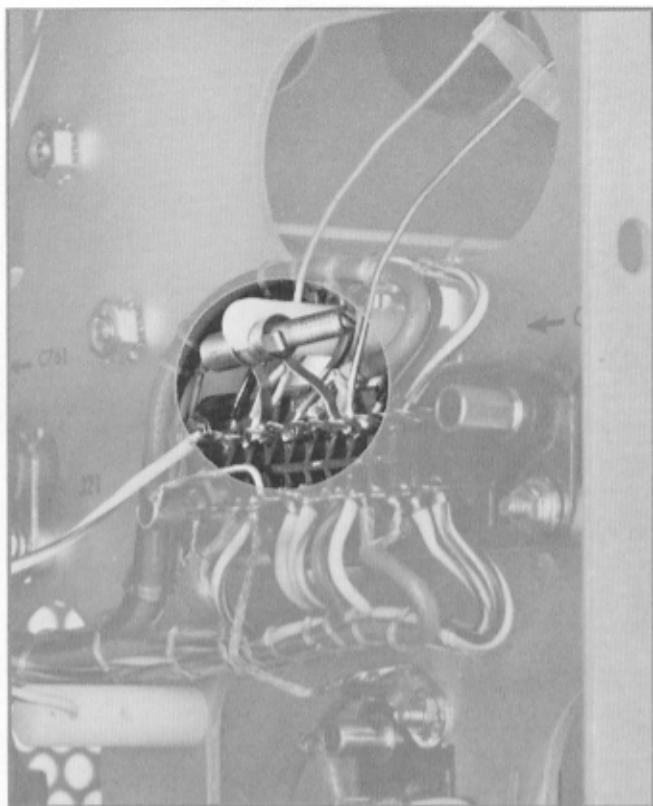
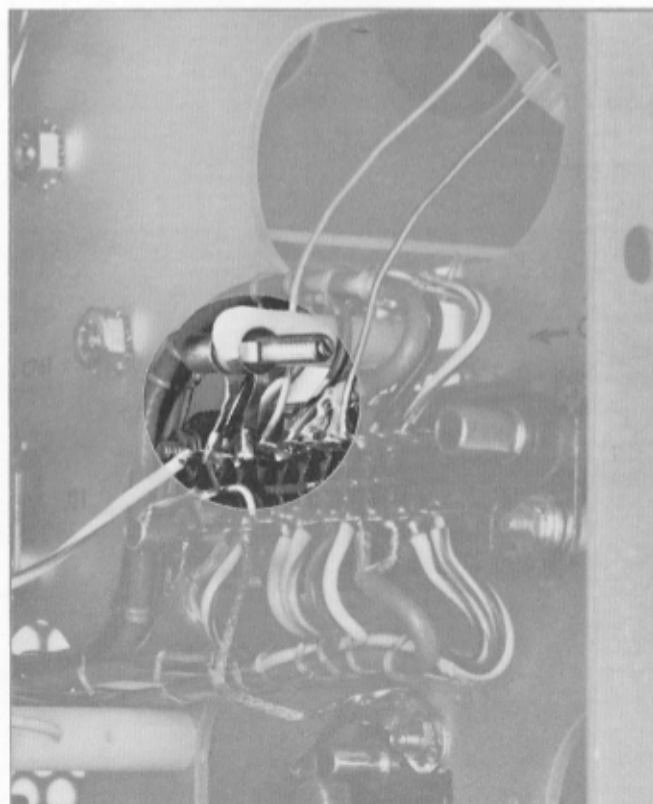

Fig. 5-13. Normal location of C760, step 9a.
Fig. 5-14. Alternate location of C760, step 9a.
Use the low-capacitance tool (item 16) to adjust C760 for best flat-topped square-wave display. C760 is shown in Figs. 5-13 and 5-14. Proper compensation is shown in Fig. 5-15. It may be necessary to position the leads to the deflection plates to aid in obtaining a good square-wave
display. C760 is to be located as in Fig. 5-13 unless correct compensation is impossible; then move it to the position between terminal 21 and chassis as shown in Fig. 5-14.